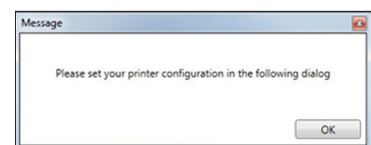

Fig. 59
- When you first open the CubeX software you will be greeted with a message asking you to configure your printer in the CubeX software. (Fig. 59)